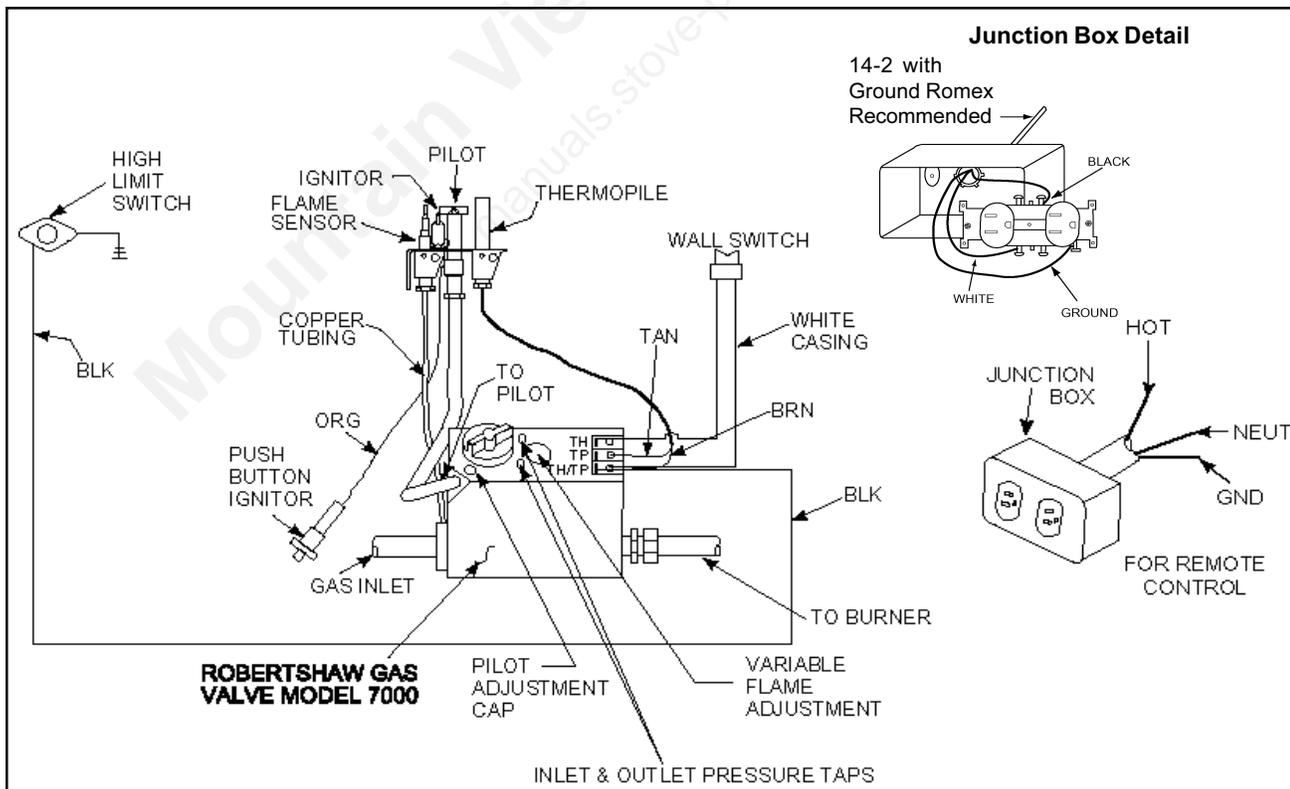

Figure 15
- 2) **Optional Accessories Requirements.** Optional accessories may be added now or at a later date. However, wiring should be done now to avoid significant wall reconstruction later if accessories are added. The remote control (RC4) requires a separate 110V AC supply directly to the appliance junction box, as shown in Figure 15. Wiring diagrams are provided with all accessories.
- 1) **Remote Wall Switch.** Position the junction box in the desired place on the wall. Wiring located for the wall switch will be found protruding from the right side of the fireplace. Run the wire to the junction box, connect to a wall switch and mount to the desired position on the wall. A wiring diagram is shown in Figure 15.